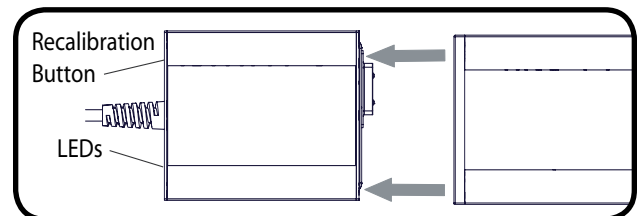

Figure 14
3. Align the battery and charger and push them together (Figure 14)